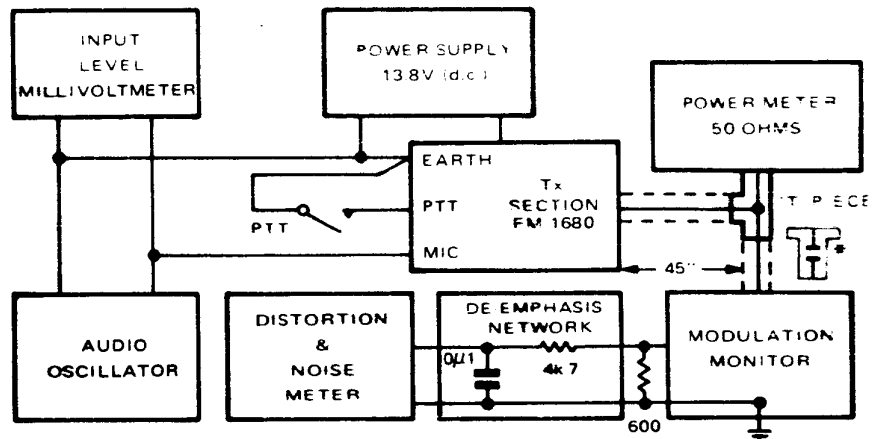

Figure 4
1. Set up the equipment as shown in Figure 4.
1. Check that the test equipment is connected as shown in Figure 4.
1. Remove all test equipment shown in Figure 4 except the Power Supply and Power Meter.